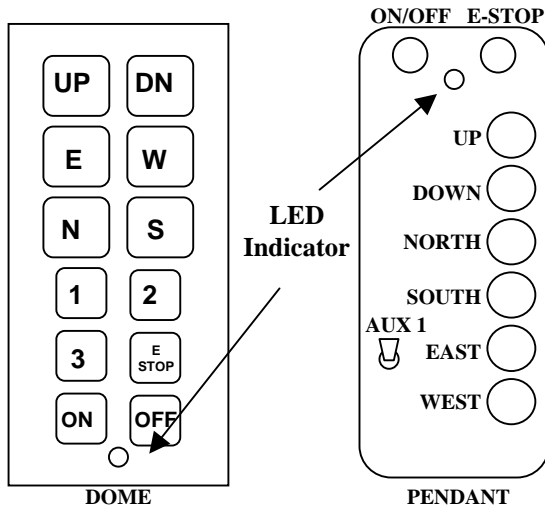

Figure 6-1. Dome and Pendant Transmitter
5. Wire the unit using the appropriate electrical drawings for the specific transmitter and crane orientation selected on pages 13 or 14 Section 5 – Wiring Diagrams. To check if it is a dome or pendant transmitter see page 17 Figure 6-1. For crane orientation determine if the direction pair East - West or North - South better describes the bridge movement. Use this pair to wire the bridge motor directionals respectively and the other pair to wire the trolley. For single speed motors do not use 2nd speed relays K3, K6, and K9. (The wiring terminals plug in and may be removed for ease in wiring. Make sure to replace connectors in the correct locations).